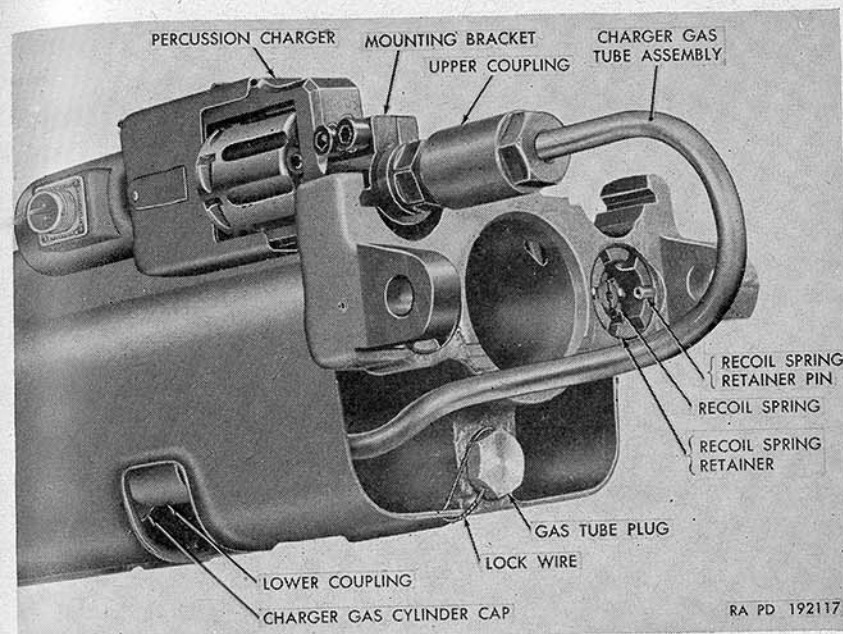
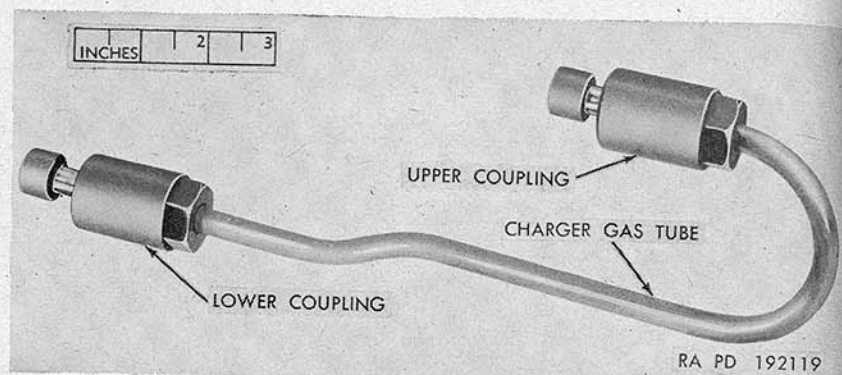

Figure 77. Charger group installed on receiver.
Figure 79. Charger gas tube assembly.
- (1) Unscrew the upper coupling of the charger gas tube assembly from the charger (fig. 77).
- (3) Unscrew the lower coupling from the charger gas cylinder cap (fig. 77) and remove the charger gas tube assembly (fig. 79). Use the charger tube coupling fixed open end wrench 7188574 (fig. 29).
- (4) Unscrew the charger gas cylinder cap (fig. 77).
- (1) Remove the drum cradle group (par. 72).
- (2) Break lockwire and unscrew the gas tube plug (figs. 77 and 81).
- (1) Drive out the recoil spring retainer pins (figs. 77 and 82).
- (2) Remove the recoil spring retainers (figs. 77 and 82), using the recoil spring retainer face spanner wrench 7188572 (fig. 30).
- (3) Push recoil spring groups outward from within the receiver.
- (3) Aline nearest notch of recoil spring retainer and drive in pin (figs. 77 and 82).
c. Gas Tube Group (figs. 77 and 81).
- (1) Install receiver orifice in receiver.
- (2) Install orifice access plug in top of receiver.
- (3) Insert gas tube and adapter into opening provided at forward end of receiver. Be sure their flat surfaces are up.
- (4) Install gas tube plug and lockwire.
d. Charger Group (figs. 77 and 80).
- (1) Install the charger gas cylinder into the well provided in the forward end of the receiver on either the right-hand or left-hand side. Be sure it seats in well all the way.
- (2) Install the charger gas piston in the gas cylinder.
- (3) Screw in charger gas cylinder cap.
- (4) Install lower coupling of the charger gas tube assembly in end of the charger gas cylinder cap.
- (5) Position the charger on the forward end of the receiver so that the beveled edges of the mounting bracket are up and one engages the groove provided on the receiver.
- (6) Place the charger securing bracket over the free side of the mounting bracket and install the charger bracket screw.
- (7) Connect the upper coupling to the charger.
b. The charger cylinder is chambered to receive eight cal. .30 carbine grenade cartridges. The gases developed by firing these cartridges are directed, by the charger gas tube assembly (fig. 77), to the charger gas cylinder (fig. 74), where they expand against the charger gas piston (fig. 74). This forces the charger gas piston rearward, against the face of the operating slide, causing the operating slide to cycle (par. 39).